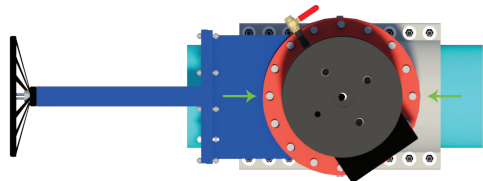

Figure 27 – Alignment nut placement for insertion housing alignment
3.5.2) Thread 2 alignment nuts onto the studs which connect the insertion housing to the temporary gate valve. Place these nuts at the locations shown in Figure 27.